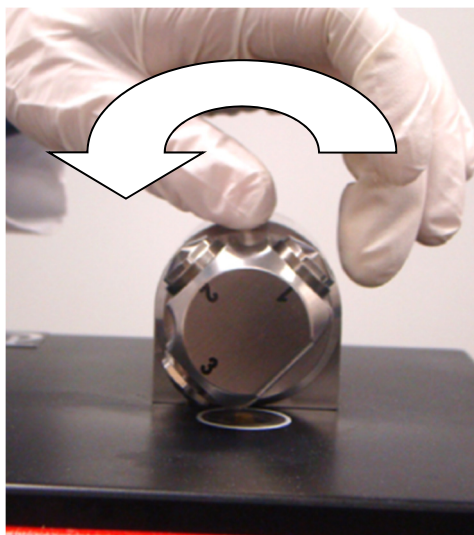

Figure 11. Rotating the DialPath so that the accessory optical window is facing down
In sample analysis mode, the DialPath is rotated such that the accessory optical window is facing down towards the 4500 DialPath FTIR sample mounting area. In this position, infrared (IR) energy passes through the sample, making measurement possible. Make sure that you rotate the DialPath arm completely around until it reaches the detent and snaps or clicks into position. This detent keeps the accessory stationary during sample measurement (see Figure 11).
- 4** Close the device by rotating the arm clockwise until it clicks into place (see Figure 11).